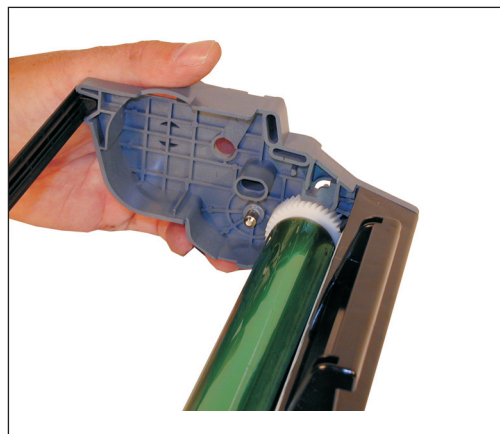

Figure 21
18) Install the drum (gear side) into the right end cap. See Figure 21